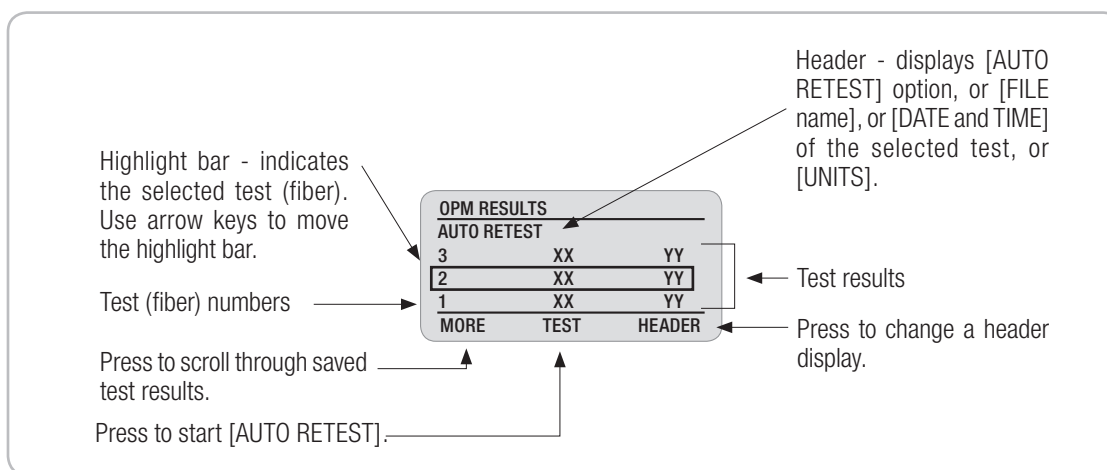

Figure 8-3. Reviewing Saved Test Results.
- 4 Press the [SELECT] soft key to access the [OPM RESULTS] screen (refer to Figure 8-3).